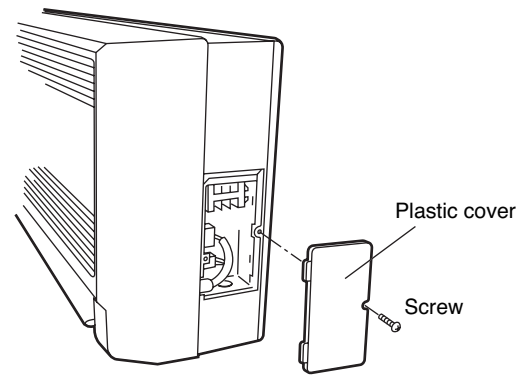

Fig. 3-42
- (1) Remove the plastic cover. (Fig. 3-42)